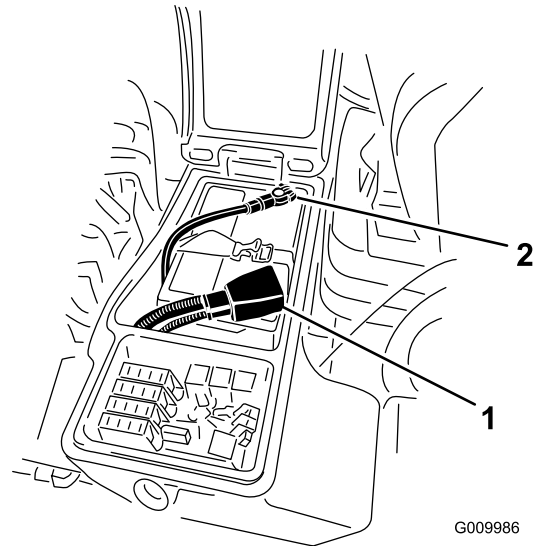

Figure 42
5. Install the positive cable (red) to the positive (+) terminal and the negative cable (black) to the negative (-) terminal of the battery (Figure 42).